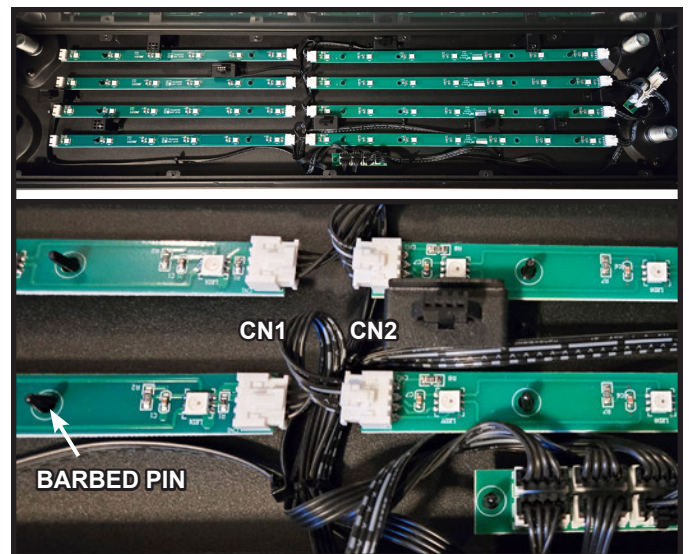

Figure 15 Ember Bed LED Boards
2. Disconnect the wire harnesses from each end of the ember bed LED board that needs replacing. Save all wire harnesses. See Figure 15.
3. Use a needle-nose pliers to compress each barbed clip while lifting the LED board evenly to disengage it from the clip. See Figure 15.
NOTE: When installing and connecting the LED boards, verify that the CN1 and CN2 ends are being connected together. See Figure 15.